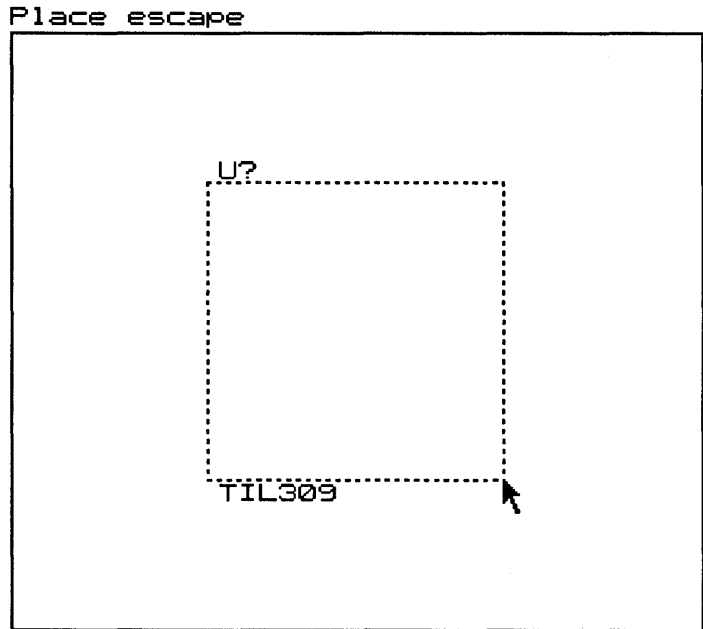

Figure 5-1. Part editing pad.
10. Move the pointer to location (+12.0, +12.0). This changes the part body border to a square shape. Figure 5-1 shows the part editing pad when the pointer is at location (+12.0, +12.0)